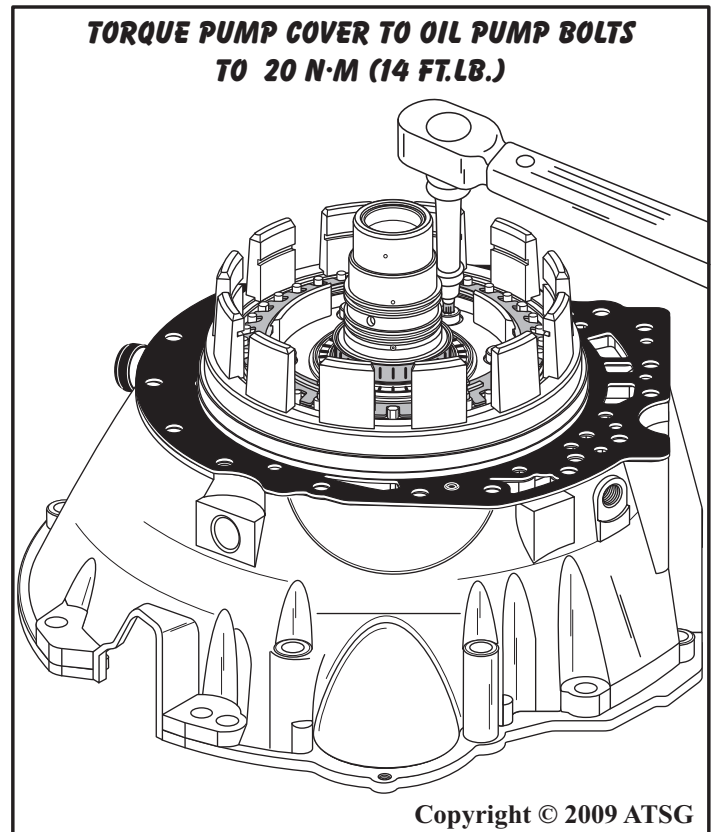

Figure 76
37. Torque the clutch housing to oil pump bolts to 20 N·m (14 ft.lb.) using 40 Torx bit, as shown in Figure 76.